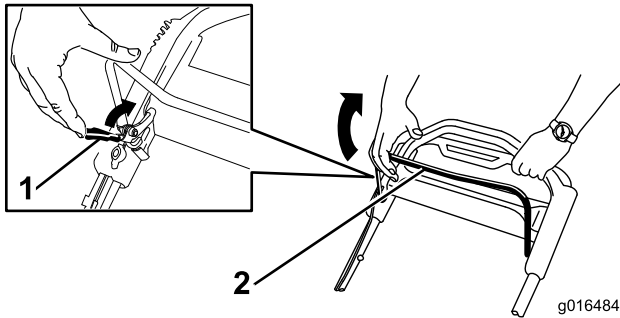

Figure 21
1. Pull the blade-control-bar lock back to the blade-control bar (Figure 21).
2. **Slowly** pull the blade-control bar back to the handle (Figure 21).